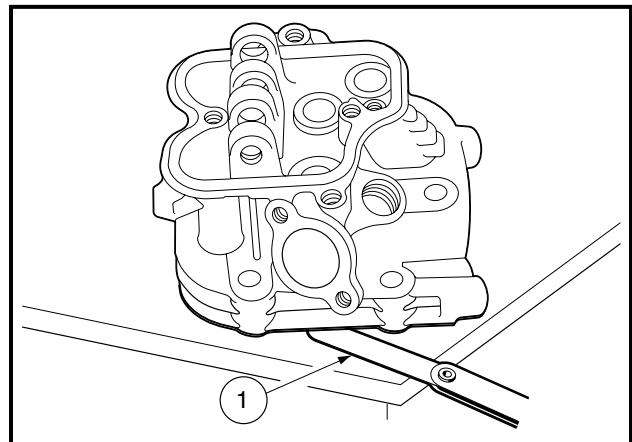

Figure 18-13 Check Flatness of Head Surface
4. Place the cylinder head on a surface plate (**Figure 18-13, Page 18-9**).
5. Measure the space between the surface plate and the head with a feeler gauge (1) to check the flatness of the head surface.